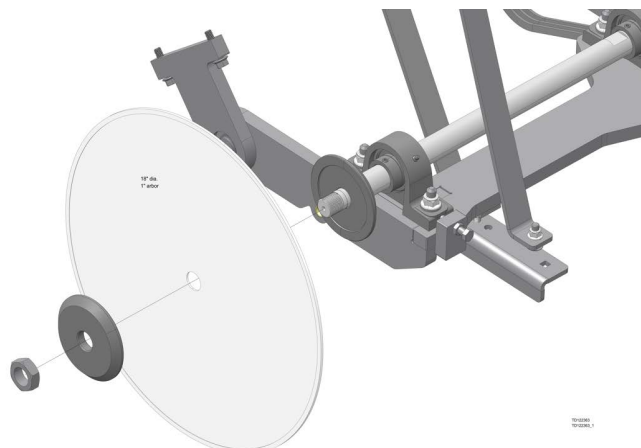

FIG. 6-2
8. Install 18" blade according to blade direction decal using blade pass-through slot as shown in Figure 6-2.